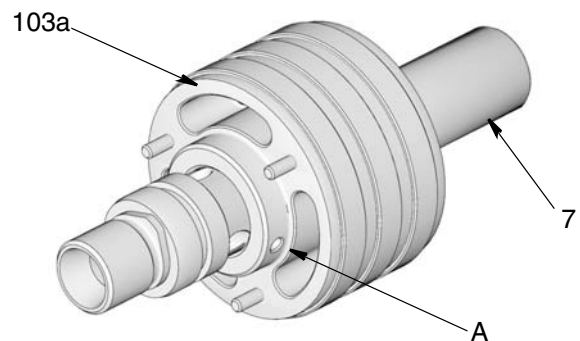

FIG. 22
- Slide shaft (7) out of spool.
- Loosen two set screws (A) and grounding lug on shaft (7). (FIG. 22)
- Insert the slip ring (103a) onto shaft (7) (FIG. 22).